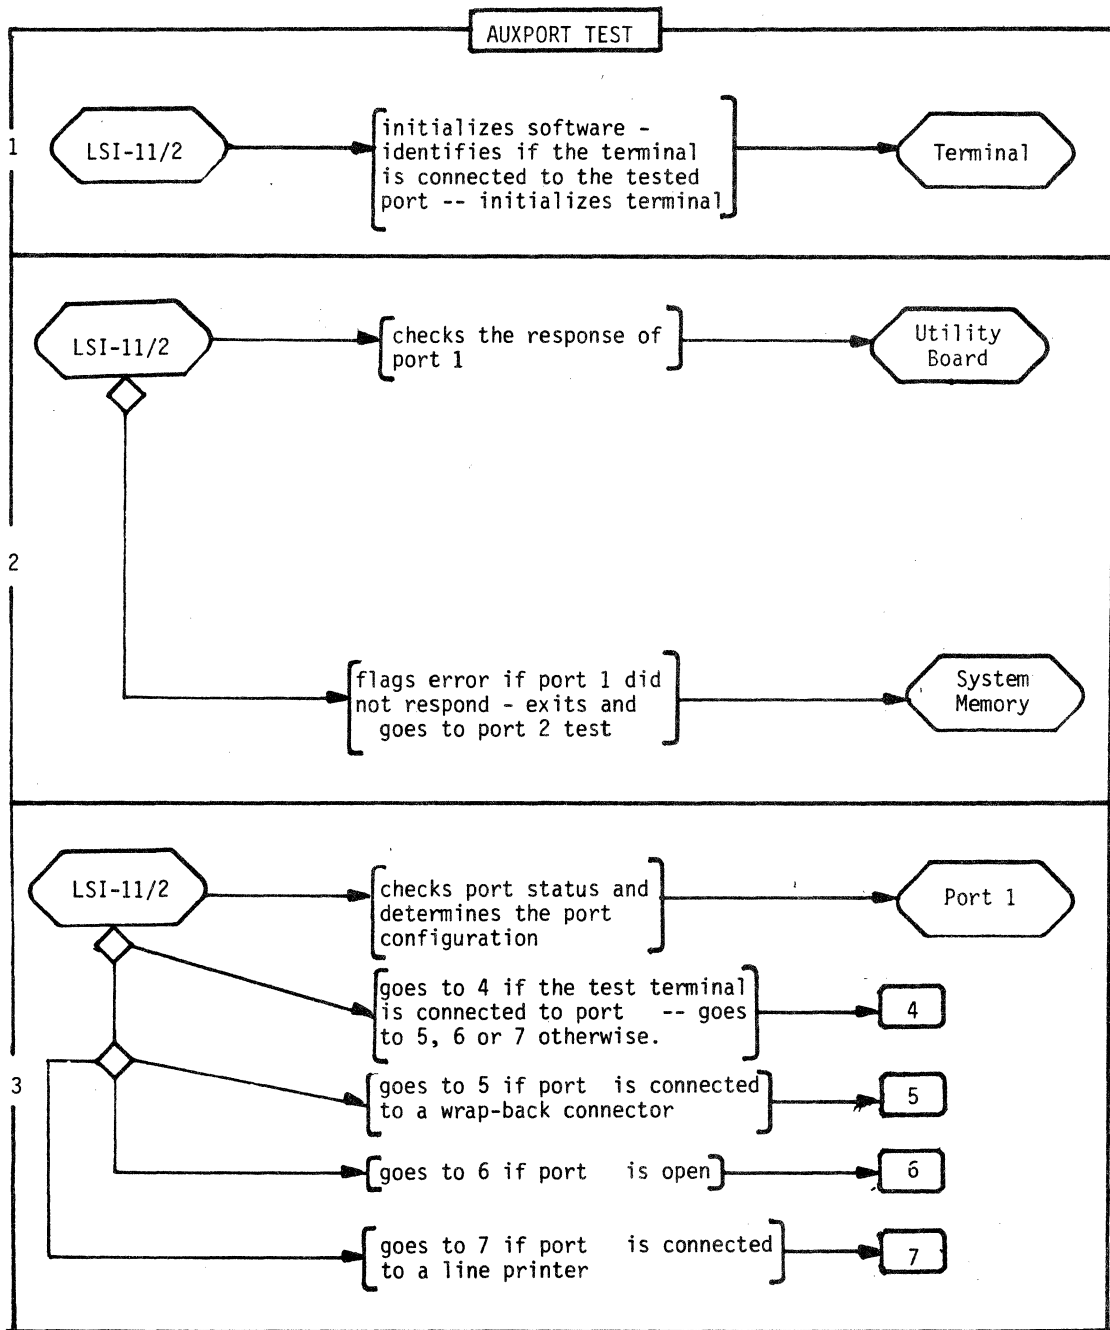

Fig. 4-12. Auxiliary port test.
1. INITIALIZE SOFTWARE (Fig. 4-12). The test initializes the software and identifies the location of the ODT terminal from which the test is executed). The test initializes the ODT terminal and checks if the ODT terminal is connected to the port to be tested. The AUXPORT test also sets the interrupts vectors and enables interrupts.